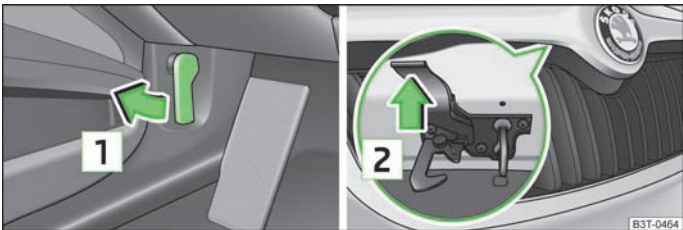

Fig. 141 Bonnet/radiator grille release lever: Release lever
- Pull the release lever under the dash panel **1** » Fig. 141.
- Press the release lever in the direction of the arrow **2** » Fig. 141 and the bonnet is unlocked.